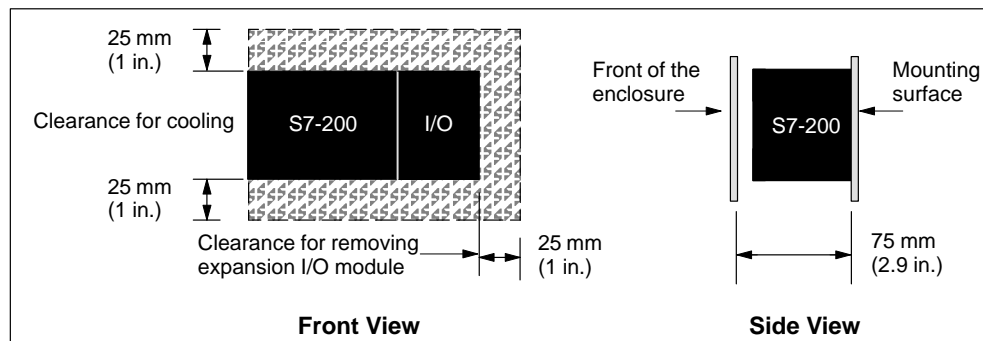

Figure 2-2 Horizontal and Vertical Clearance Requirements for Installing an S7-200 PLC
- The S7-200 CPU and expansion modules are designed for natural convection cooling. You must provide a clearance of at least 25 mm (1 in.), both above and below the units, for proper cooling. See Figure 2-2. Continuous operation of all electronic products at maximum ambient temperature and load reduces their life.
- If you are installing an S7-200 horizontally or vertically on a panel, you must allow 75 mm (2.9 in.) for the minimum panel depth. See Figure 2-2.